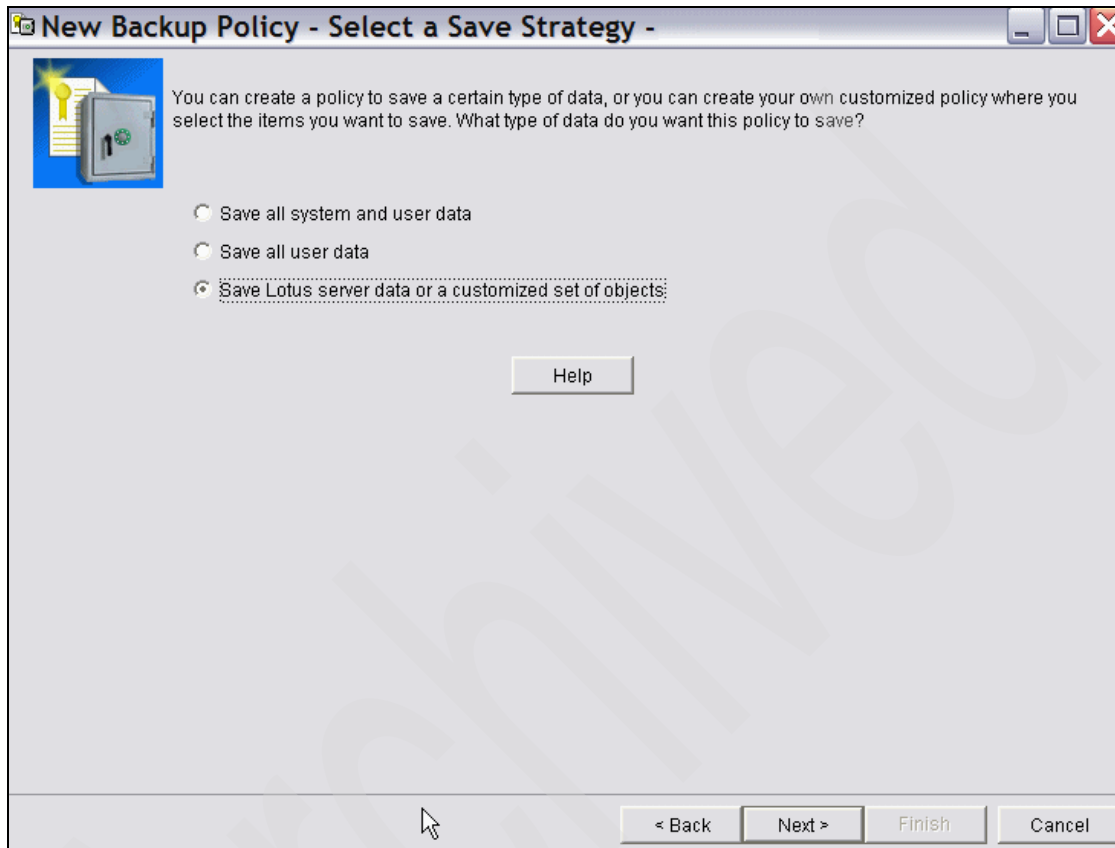

Figure 5-18 BRMS backup policy, save strategy
5. In the Select a Save Strategy window shown in Figure 5-18, select **Save Lotus® server data or a customized set of objects**, and click **Next**.